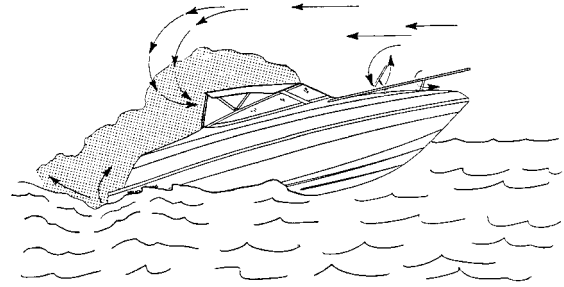

FIGURE H4: INEFFICIENT TRIM ANGLES.
1. Inefficient trim angle. See Figure H4.